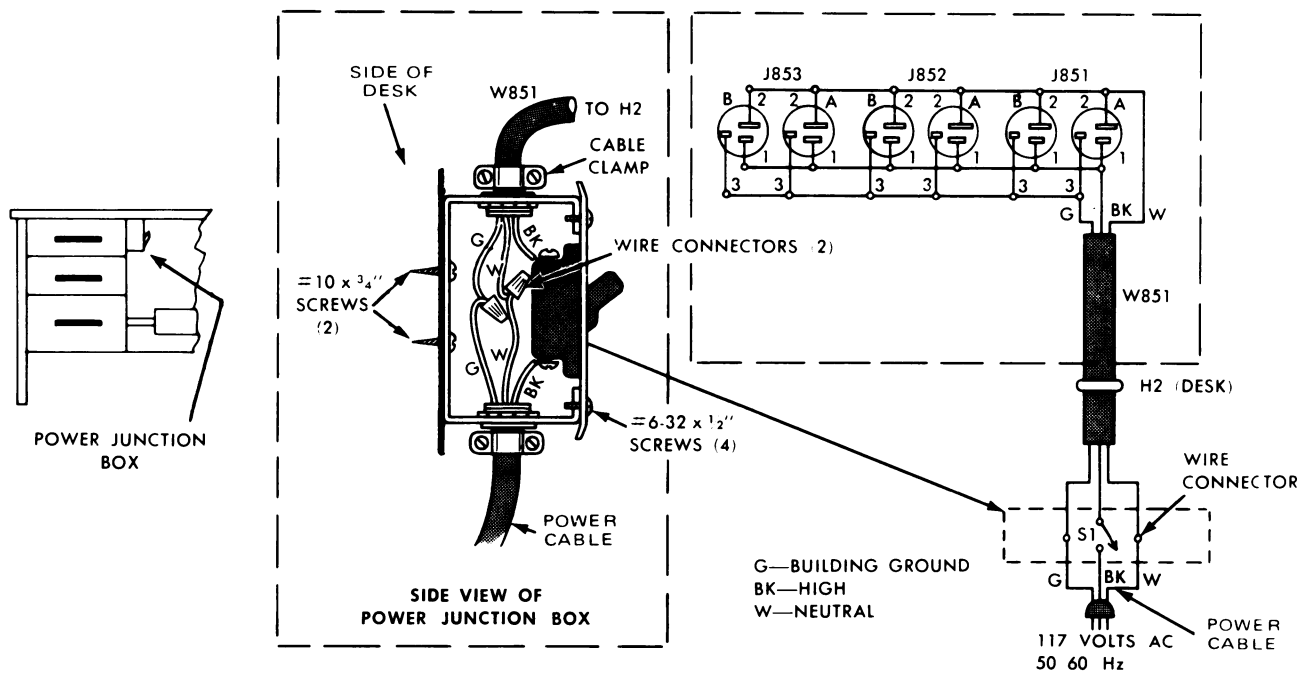

Figure 4. Power Cable and Junction Box Installation
9. Cut a necessary length of 3-wire, rubber covered, power cable and attach one end to either J851, J852 or J853 on the turret (BK to BK, W to W, G to G). See Figure 4.
Install the power junction box to the side of the desk and at the back of the kneehole space as shown in Figure 4, and described in the following instructions.
2. Remove an end "knockout" on the power junction box. Then orient the box so that the hole is up, and mount the box to the side of the desk and at the back of the kneehole using two No. 10 x 3/4" thread-forming screws (see Figure 4).
3. Install the cable clamp in the hole at the top of the junction box. Connect three-wire power cable (routed from the console turret through H2 in the desk) to the power junction box as shown in Figure 4.